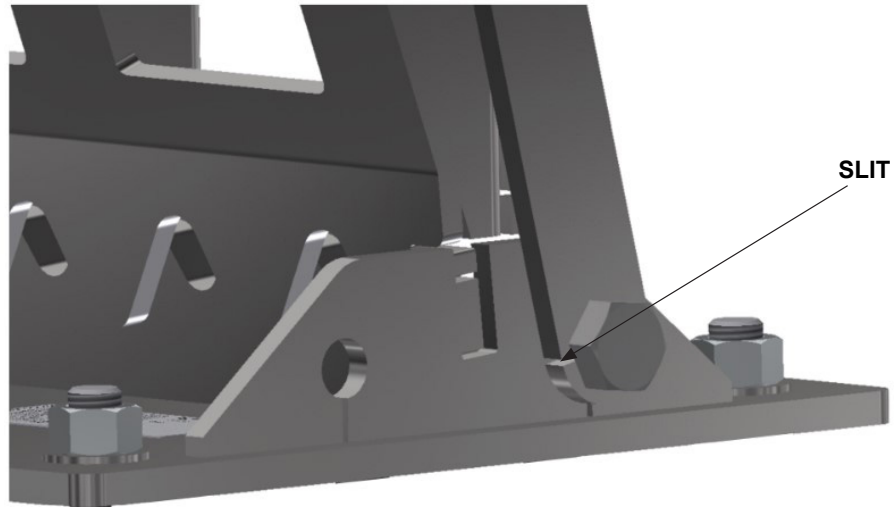
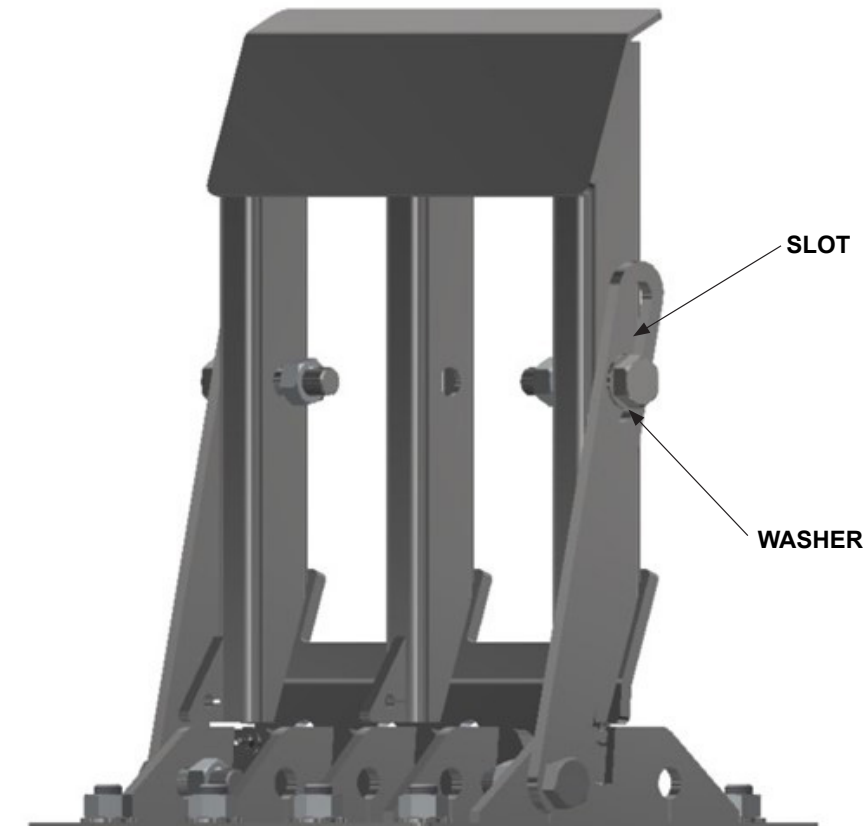

Figure 6D
Figure 6E
3. Secure the two (2) CET™ Anchor Links (PN: 131678G) to the CET™ Lower Anchor. Using the round hole in the CET™ Anchor Links and the hole in the CET™ Lower Anchor towards Post One, secure with a 1" x 3 1/2" Hex Bolt (PN: 003914G) and the nut (PN: 004903G). See Figure 6D, note orientation of bolts. The slit in the bottom hole of the CET™ Anchor Links can be orientated in either upstream or downstream direction. Tighten all threaded hardware to a snug position with a minimum of two threads protruding beyond the nut. The length of the shank on the bolt is designed to prevent a tight connection between the CET™ Anchor Links and the CET™ Lower Anchor. See Figure 6E, note orientation of bolts.
4. Secure the slot end of the CET™ Anchor Link to the CET™ Upper Anchor with a 1" x 5" Hex Bolt (PN: 004486G) and 1" Washer (PN: 004902G) under the bolt head and nut (PN: 004903G). Tighten all threaded hardware to a snug position with a minimum of two threads protruding beyond the nut. The length of the shank on the bolt is designed to prevent a tight connection between the CET™ Anchor Links and the CET™ Upper Anchor. See Figure 6E, note orientation of bolts.
6. Using the holes in the CET™ Reflective Sheet Panel mark the location on the CET™ Upper Anchor and drill a minimum of four (4) 7/32" [5.5 mm] diameter holes at the corner locations. Secure the CET™ Reflective Sheet Panel to the CET™ Upper Anchor using #12 x 1" Self-Tapping Screws (PN: 116884G).